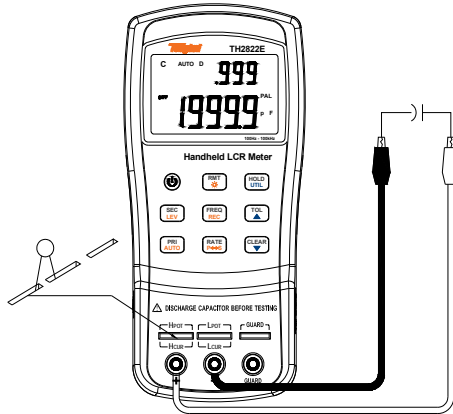
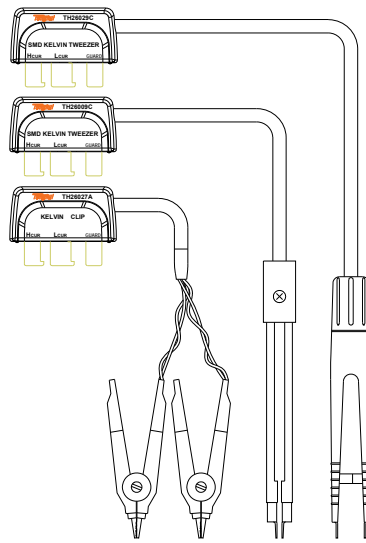
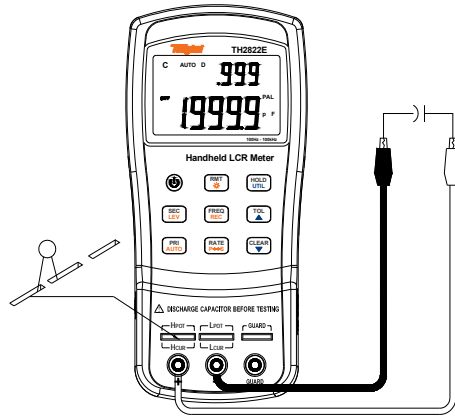
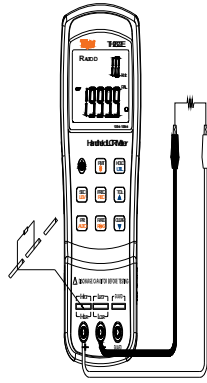

Figure 12- Inductance Measurement
Figure 13- 4-terminal Test Accessories
Figure 14- Capacitance Measurement
Figure 15- Resistance Measurement
3. Insert an inductor into test slots or connect a tested inductor through a proper test accessory (e.g., banana plug-crocodile clip test leads, test fixture or SMD test tweezers). See figures 12 below. Figure 13 shows the optional 4-terminal test accessories.
3. Insert a capacitor into test slots or connect a tested capacitor through a proper test accessory (e.g., banana plug-crocodile clip test leads, test fixture or SMD test tweezers). See figures 14 below. Figure 13 shows the optional 4-terminal test accessories.
3. Insert a resistor into test slots or connect a tested resistor through a proper test accessory (e.g., banana plug-crocodile clip test leads, test fixture or SMD test tweezers). See figures 15 below. Figure 13 shows the optional 4-terminal test accessories.